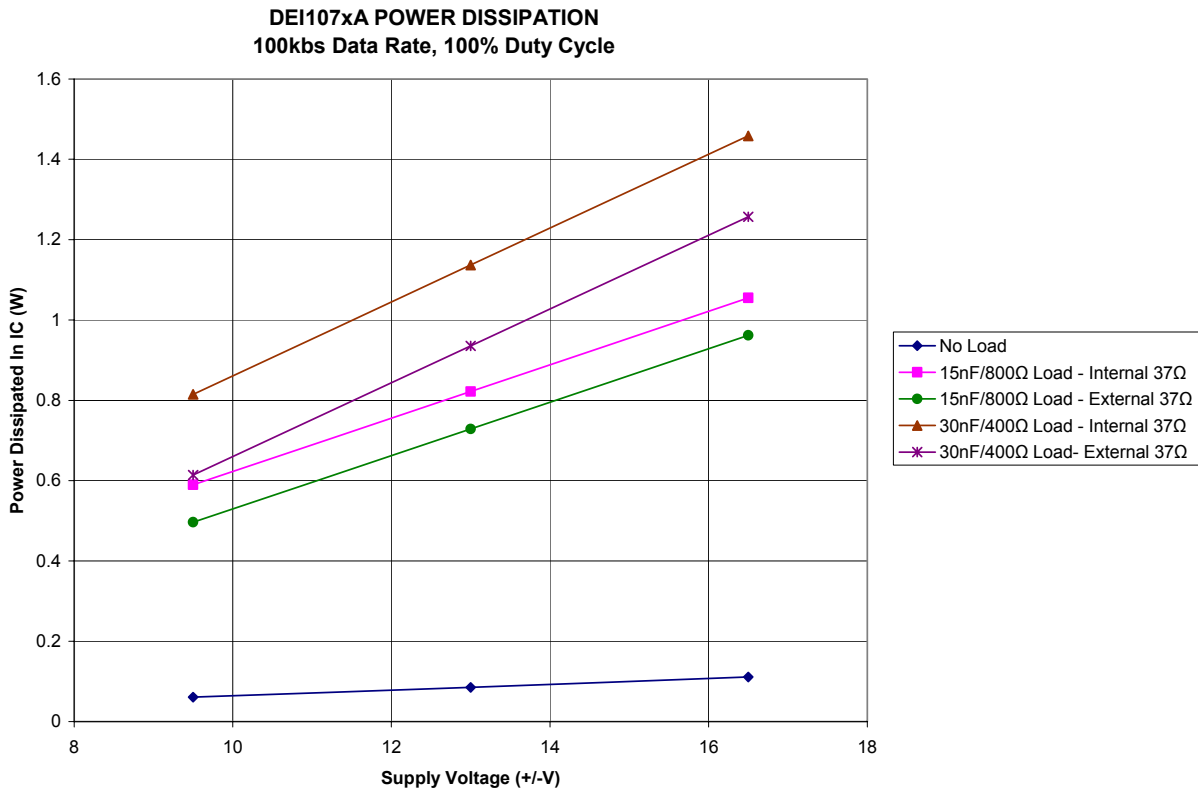

Figure 6 Internal Power Dissipation
The internal power dissipation for 100kbs applications can be estimated from Figure 6. P_d for low speed operation (12.5kbs) is normally not an issue, so is not considered here. The curves in Figure 6 indicate P_d for various loads, supply voltage, and Rout configuration. It represents P_d for 100% Data Duty Cycle at 100KBS with no word gap null times. Thus the indicated P_d values are considered maximum values and should be reduced to account for the Data Duty Cycle as follows:
- Use Figure 6 to select an indicated P_d for the application supply voltage and load. This may involve estimating the Line Driver's load and interpolating between the curves.
- Calculate adjusted P_d = DDC * (P_d - 0.1) + 0.1 (W)